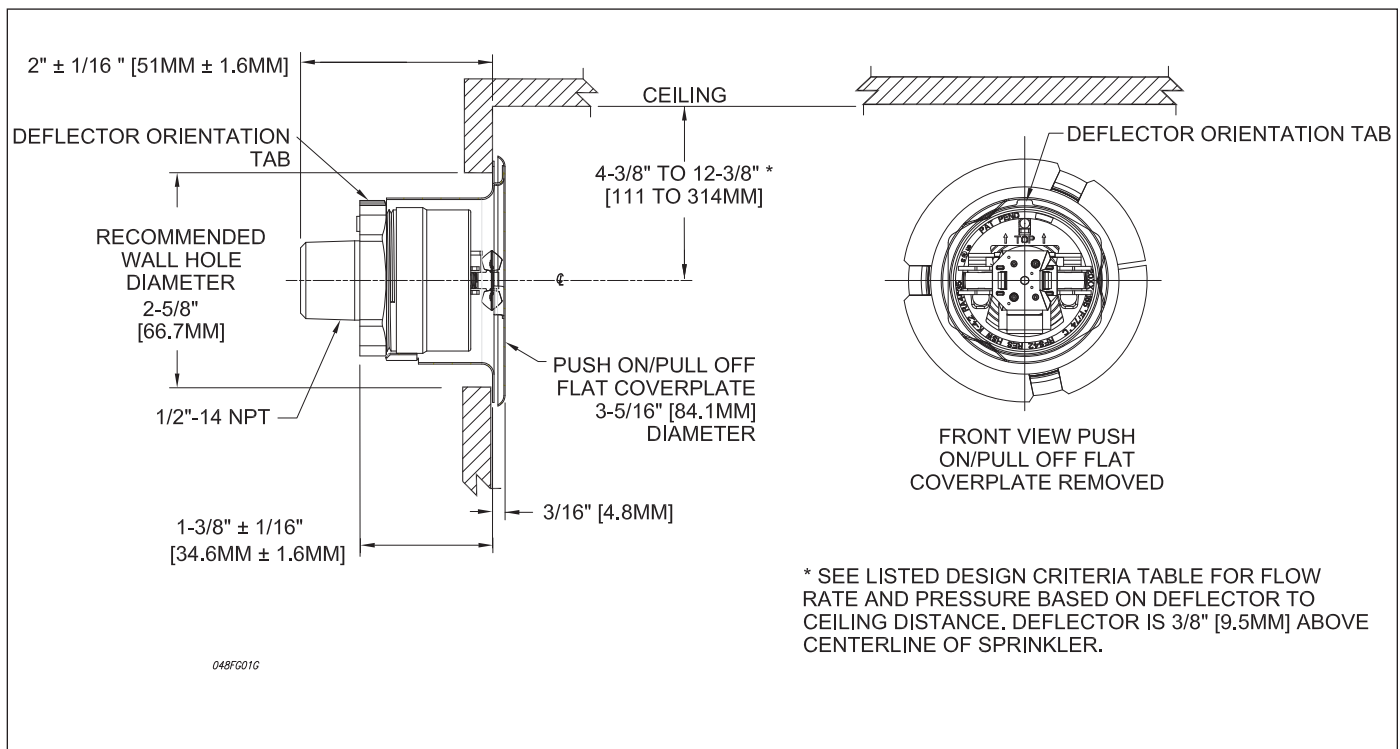

Fig. 1
4. The sprinkler fitting shall be installed so that the rear of the sprinkler is 2" +/- 1/16" from the finished surface of the wall. Verify wall assembly dimensions prior to installation to ensure that the cover plate attaches to the sprinkler and seats against the finished wall surface (Fig. 1).